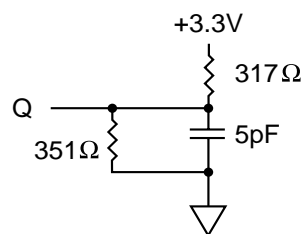

Figure 2
4. The load used for V_{OH}, V_{OL} testing is shown in Figure 2. AC load current is higher than the stated DC values. AC I/O curves are available upon request.
3. This parameter is measured with output load as shown in Figure 2.